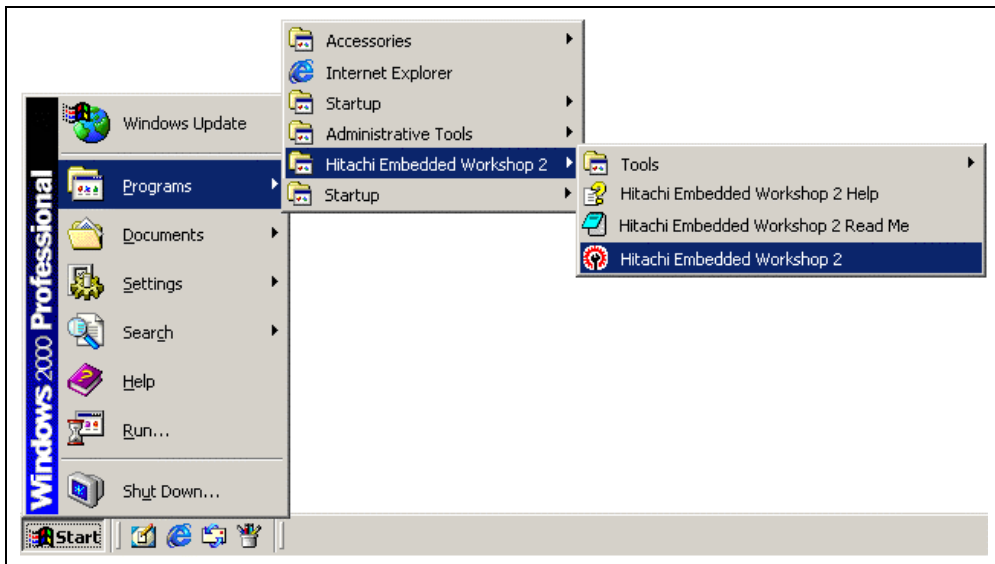

Figure 2.11 [Start] Menu
4. Activate the HEW from the [Programs] in the [Start] menu (figure 2.11).